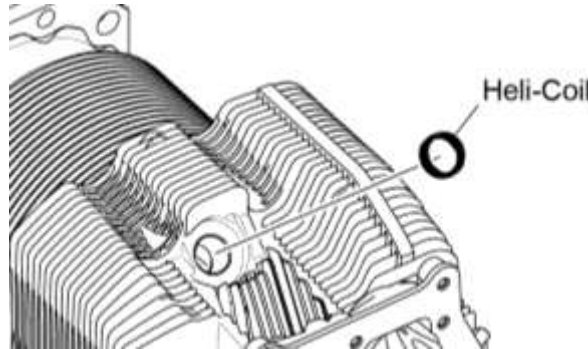

Figure 47
- A. Replace the spark plug Heli-Coil® insert (Figure 47) in the cylinder head if the threads in the spark plug hole in the cylinder are damaged (usually occurs when hard carbon on the end of the spark plug causes the insert to unwind during spark plug removal).